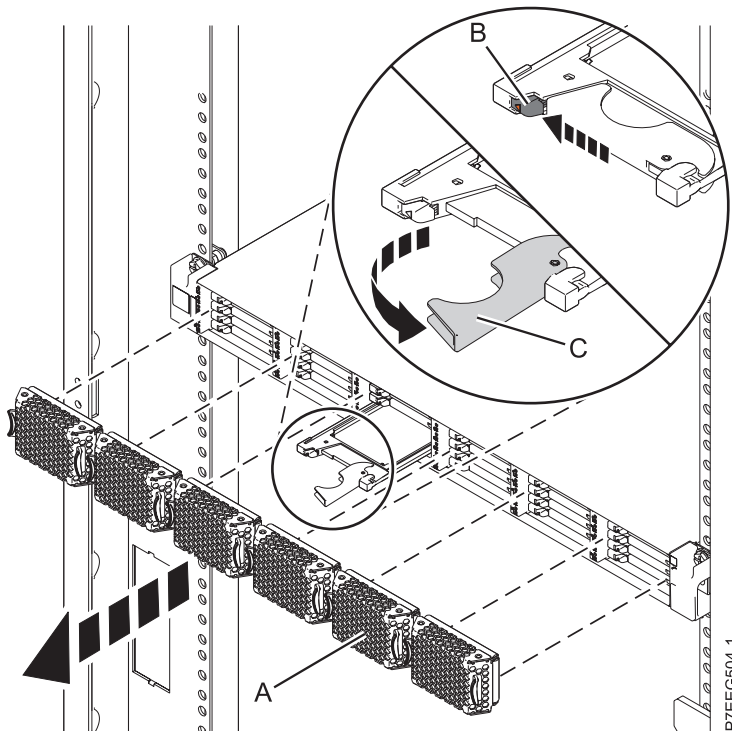

Figure 12. Removing the solid-state drive from the 58/88 PCIe storage enclosure
4. Pull off the bezel (A) that covers the slot that contains the solid-state drive.
5. When the solid-state drive identify LED turns on solid, slide the release latch (B) over gently to unlock the drive handle. See Figure 12.
6. Grasp the handle (C) and pull the drive partially out of the slot.